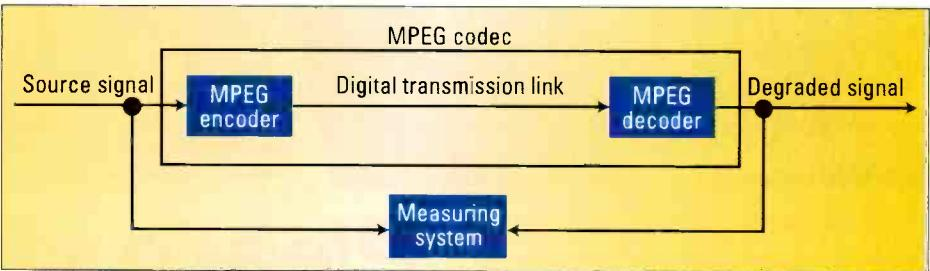

Figure 1. Picture comparison test setup
- *Picture comparison method:* As shown in Figure 1, this approach compares original and degraded source video signals (for instance, SDI 4:2:2@270Mb/s), feeding the input of the system under test (MPEG codec) with the degraded signal obtained at the output of the MPEG codec. This method is accurate because it has complete information about the original and the degraded signal. This obviously requires that the test equipment as well as the codec be available to the test personnel, a situation encountered in development laboratories. This test method could be extrapolated to a test situation where the MPEG encoder